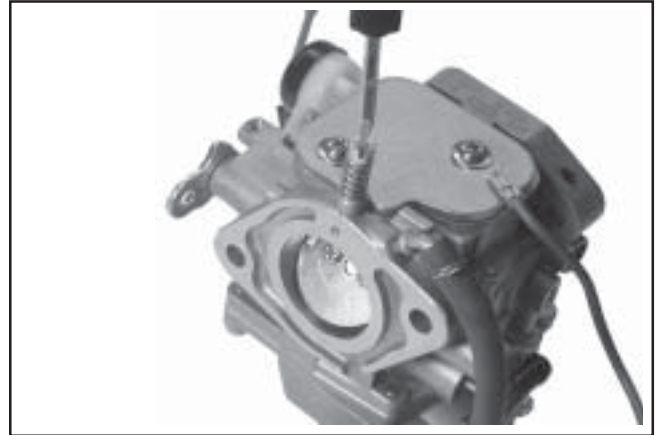

Figure 5-28. Installing Idle Fuel Adjusting Screw and Spring.
17. Place the longer new spring onto the idle fuel adjusting screw and install it into the carburetor. As an initial adjustment, set to **1 turn out** from lightly seated. See Figure 5-28.